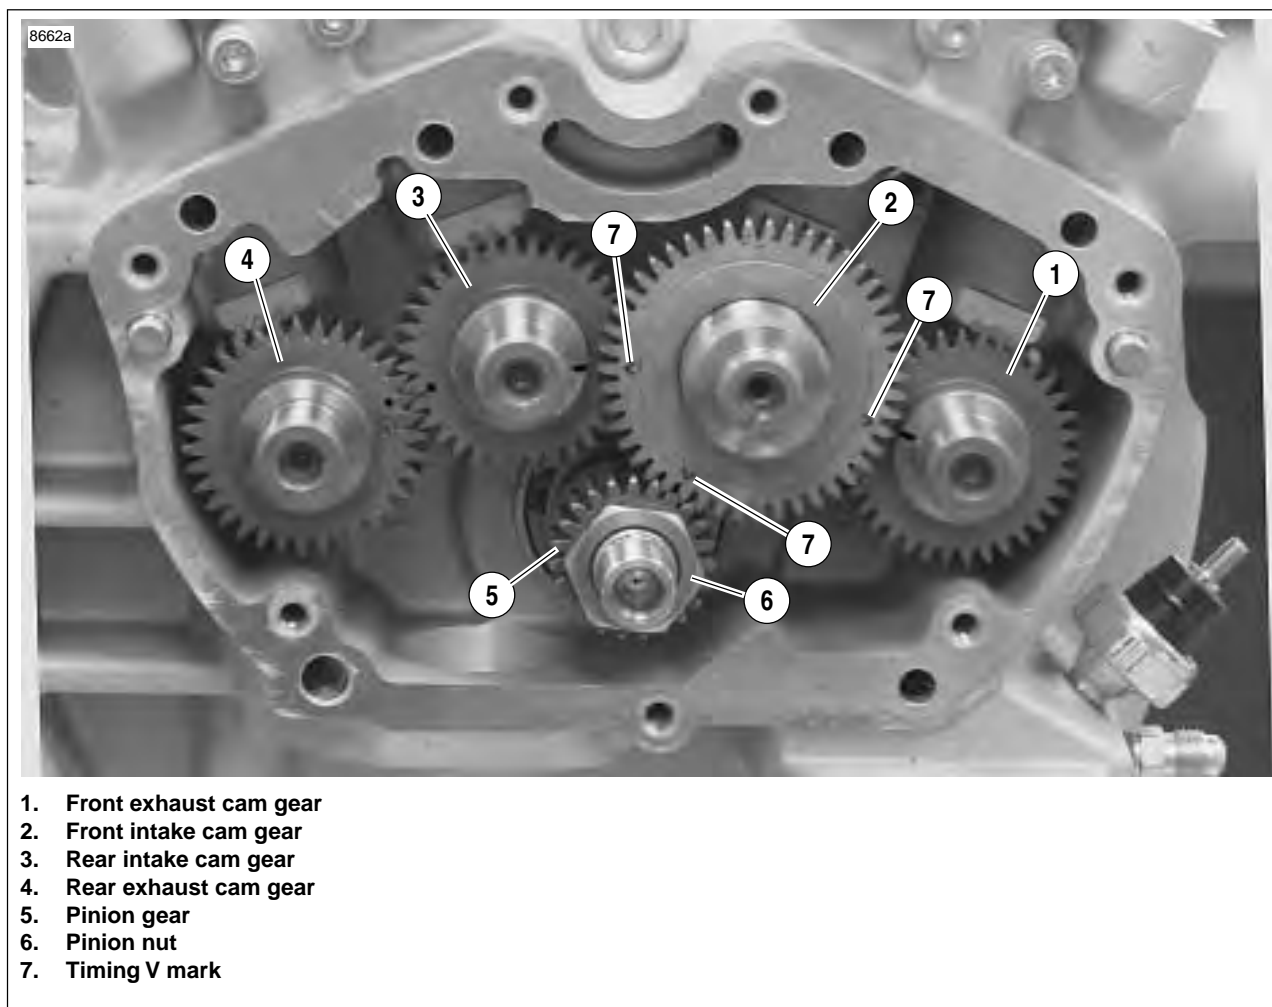

Figure 3-125. Cam and Pinion Gear Location and Timing Mark Indexing
8. See Figure 3-125. Remove cam gears (1, 2, 3 & 4).
See Figure 3-125. The *XB9S* timing marks are located on the front intake cam assembly (2). Note the "V" marks.